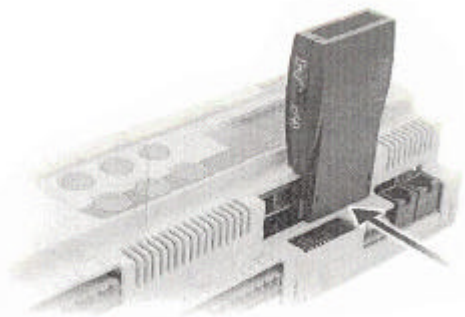

Fig. 3
- Insert the key in the corresponding pin connector as shown. (see Fig. 3)